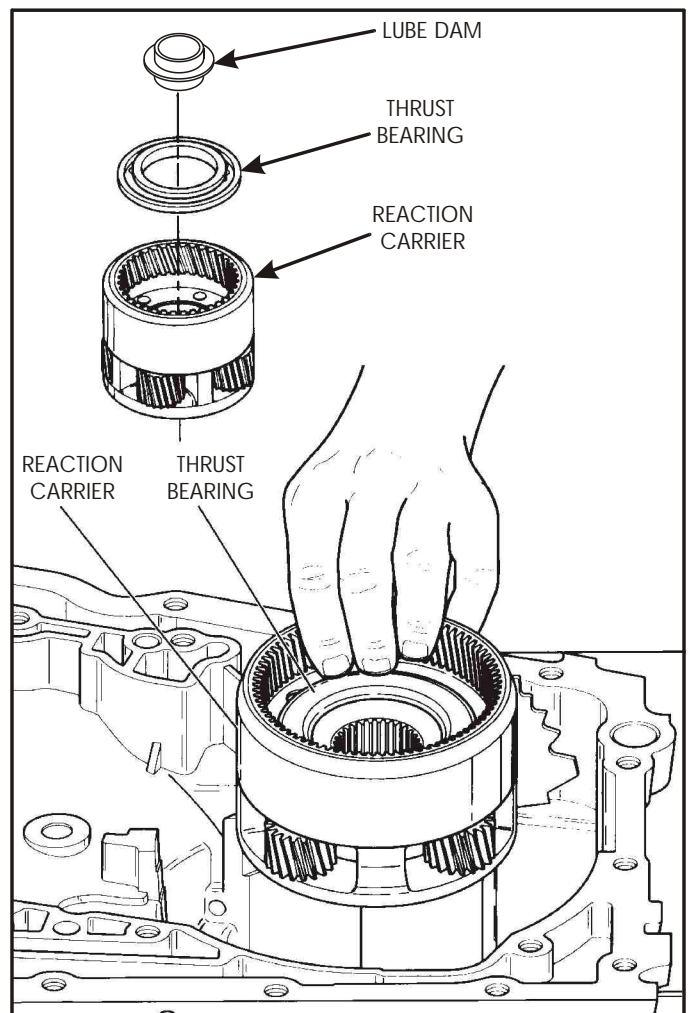

Figure 75
27. Remove the reaction carrier assembly along with the thrust bearing assembly, as shown in Figure 75.
28. The input carrier to final drive sun gear shaft lube dam may come out with the carrier if it did not come out with the input carrier. Refer to Figure 75.